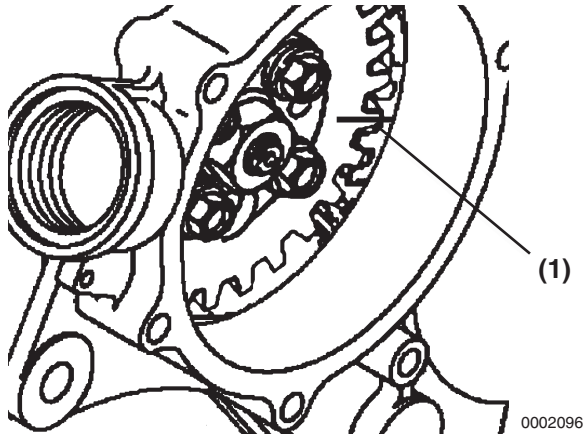

Figure 7-11
14. To aid in reassembly, make reference marks (**Figure 7-11, (1)**) on the drive gear and idler gear.